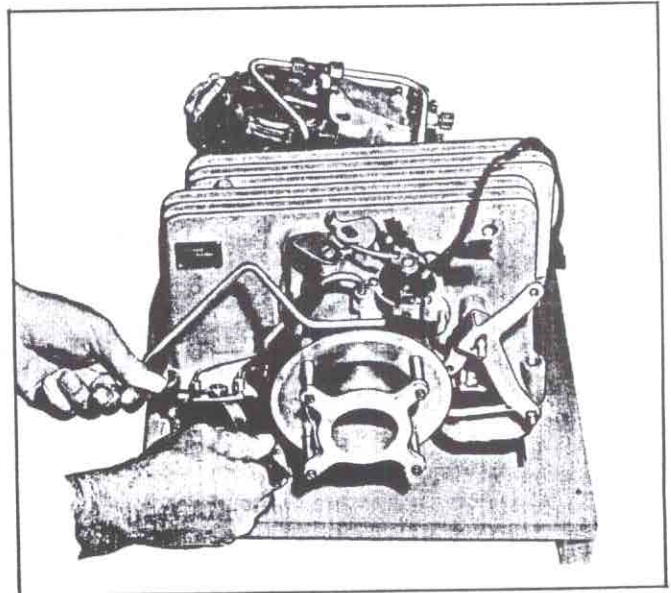

Fig. 165—Tightening Nozzle Retainer
c. Install assembled nozzles and nozzle block on intake manifold using a new nozzle block gasket. Insert bolt into nozzle block, then slip a .002" feeler gauge between the nozzle block and retainer adjacent to the bolt location (fig. 165). Tighten bolt until .002" feeler gauge can just be removed. Properly installed, the nozzle block will be retained by the tension against the nozzles; the retainer should not touch the nozzle block. Over-tightening will probably cause nozzle block cracking.